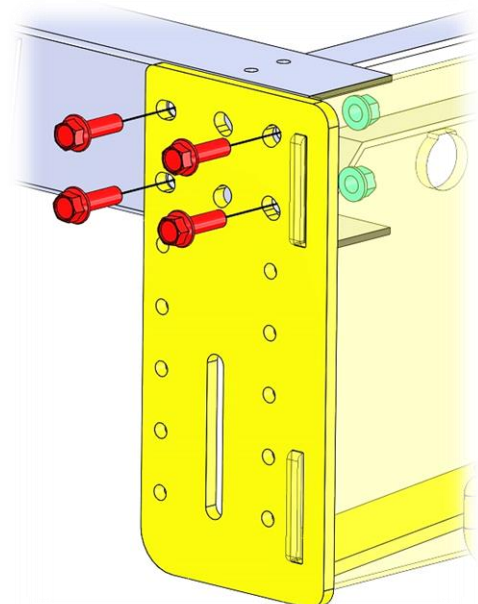

Figure 4-A
The hitch plate can be mounted to chassis using existing holes in the frame, and/or new holes can be drilled for mounting. Regardless of the combination of new/existing holes used, **hitch plate must be secured with at least 4 bolts on each side**. When choosing which slots of the hitch plate to use, try to select the most dispersed set possible (ideally the 4 corner slots), see *Fig. 4-A* (center plate shown transparent to show hardware).
Step 4 - Pull each wire connector out through its corresponding light hole and connect to lights. Red lights go in outer holes and clear lights go in inner holes, see *Fig 4-A*.